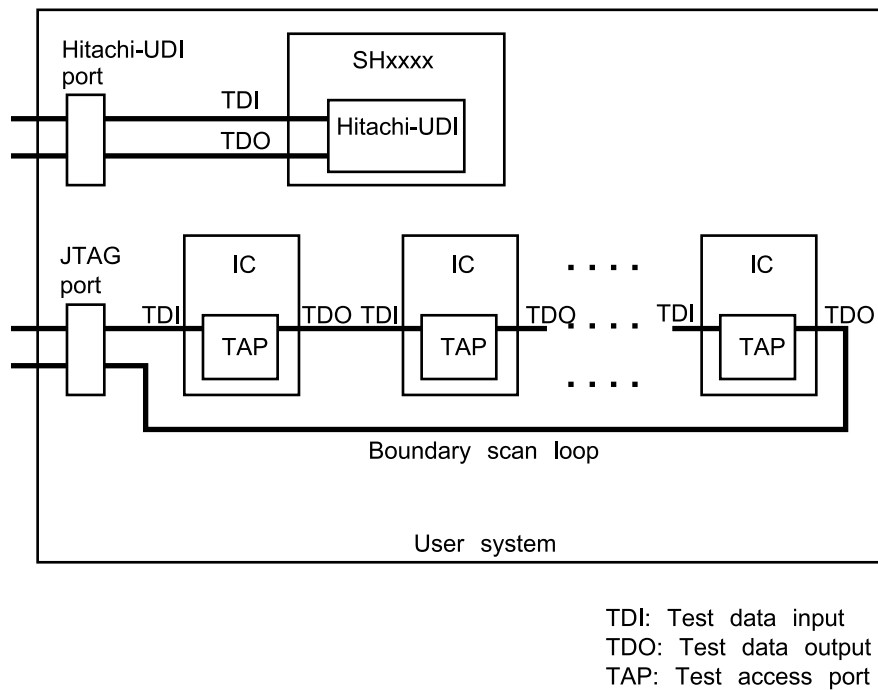

Figure 2.20 User System Example
5. When developing user systems, do not connect the TDI and TDO signals of the MCU to the boundary scan loop, or separate them by using a switch (figure 2.20).